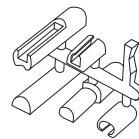
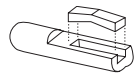

Figure 3
Figure 4
7. Temporarily mount the switch and place the original dial on the new switch shaft using one or more of the adaptors on the sprue tree (Figure 3). Make sure the shaft goes in all the way. See Figure 4 for assembly of the spring clip to the adaptor if applicable.